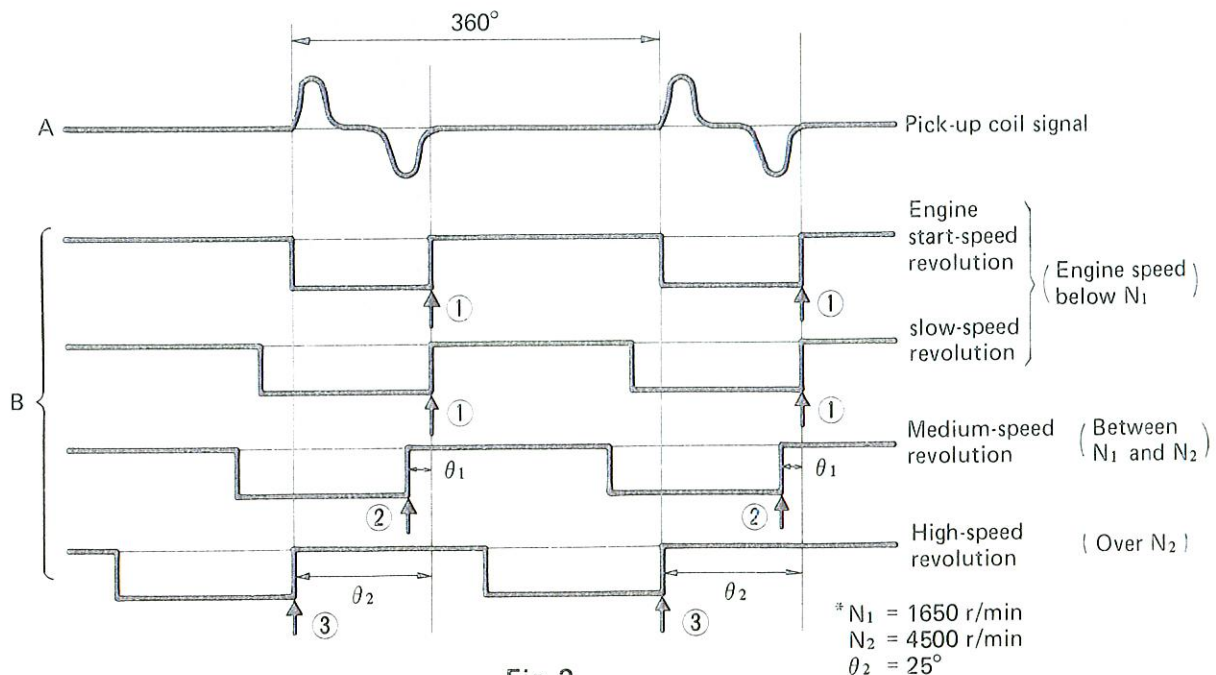

Fig. 2
When the signal rotor is rotated in the system block diagram above, the signal "A" is generated in the pick-up coil. The thus-generated signal will be converted to the signal waveform "B" inside of the ignitor unit and ignition timing is controlled in response to the engine speed as shown in Fig. 2. That is, timing controlled in the ignitor unit becomes ① when the engine speed is lower than N_1 , and it becomes ② when the engine speed is $N_1 \sim N_2$. The advanced angle when ignited with ② is θ_1 . When higher than N_2 , timing is ③, and the timing does not advance higher than the above. The maximum advanced angle is θ_2 .